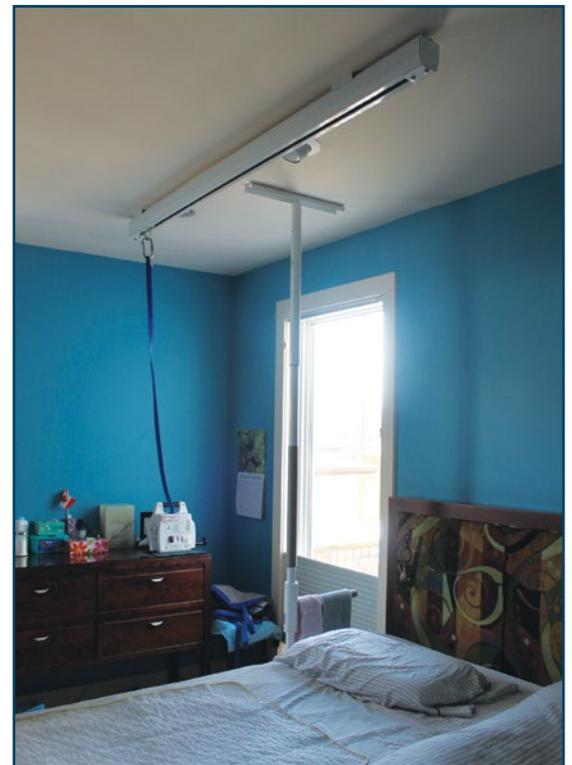

Figure 4: Ceiling lift
- Ceiling lifts (see figure 4)
A **ceiling lift** is the commonest term for a type of hoist that consists of a hoisting unit mounted to a track in the ceiling (see figure 4). This type of hoist allows a person to be lifted and moved across a room and between rooms. A ceiling lift is usually electrically powered, but there are manual units.